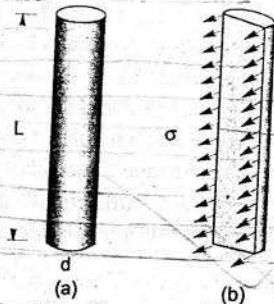

Fig. 1.12 Forces on liquid jet.
1.6.3 Surface Tension on a Liquid Jet. Consider a liquid jet of diameter 'd' and length 'L' as shown in Fig. 1.12.